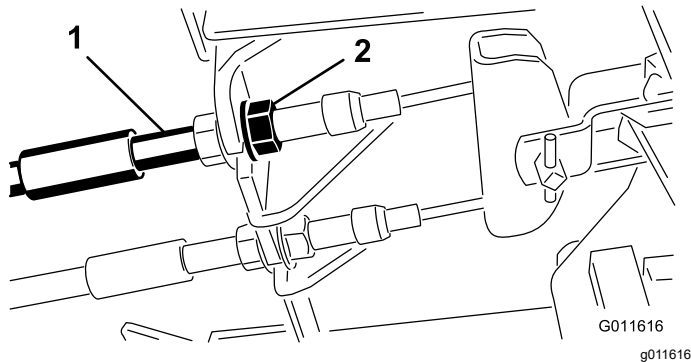

Figure 84
1. To reduce free travel of the brake pedals, tighten the brakes by loosening the front nut on the threaded end of the brake cable (Figure 84).